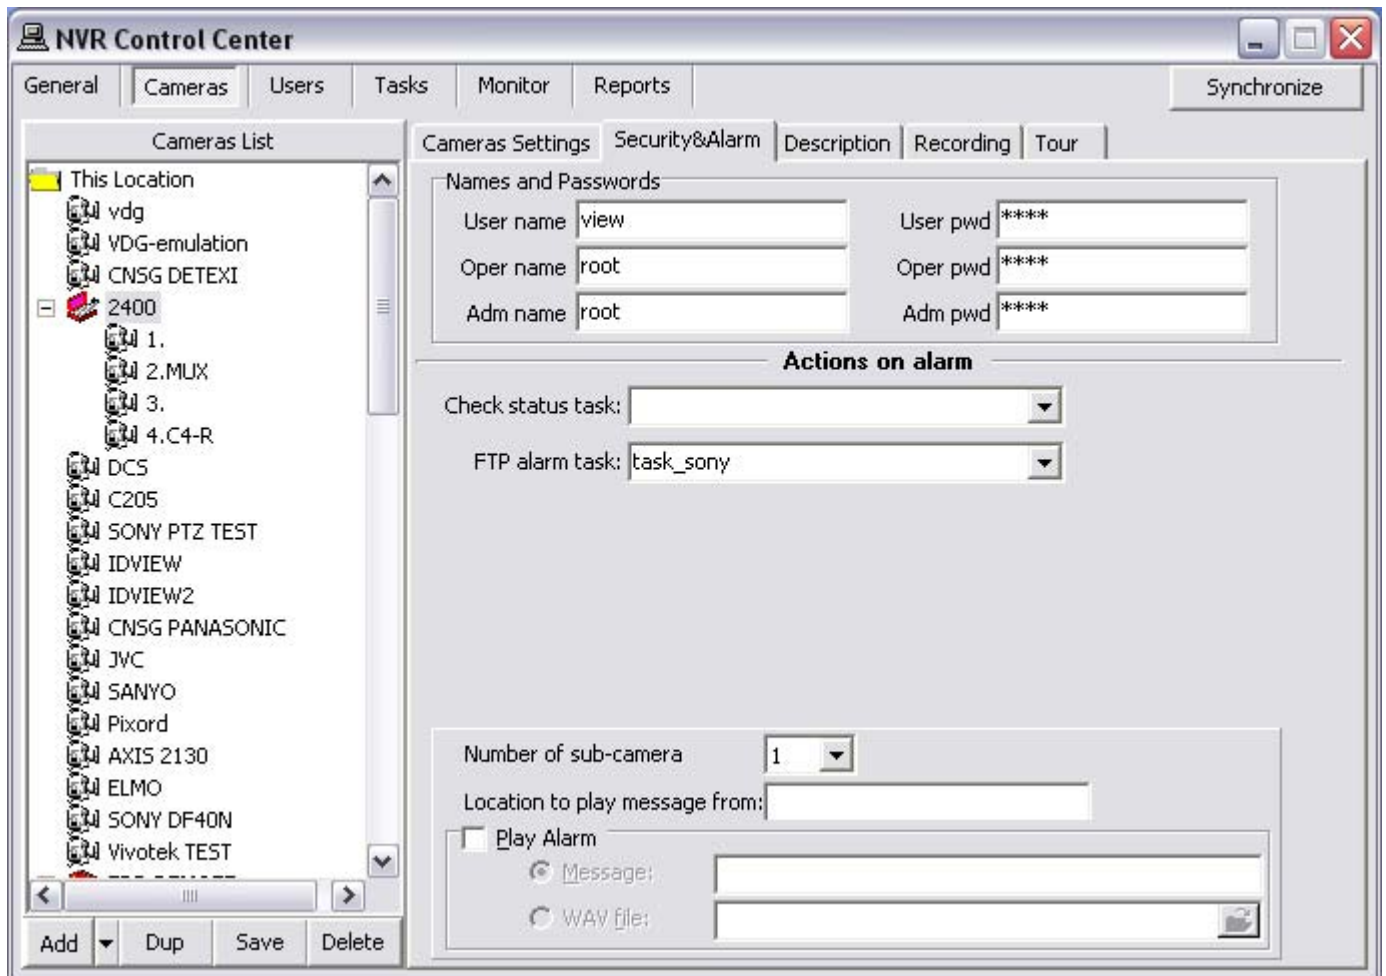

Fig 59. NVR Control Center — Cameras— Security & Alarm
1. In the **NVR Control Center — Cameras** select a camera to configure from the **Cameras List** and switch to the **Security & Alarm** (Fig 59).